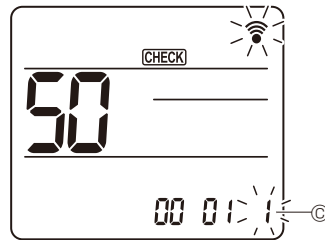

Fig. 6-21
④ Selecting the setting number
Use the **DOWN** button to change the Setting number ③. (Fig. 6-21)